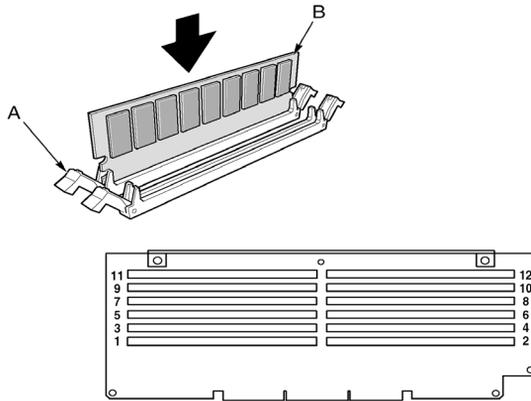

Figure 27 - Installing a DIMM
- 3 Open the plastic ejector levers (Figure 27, A) at each end of the DIMM socket on the memory board .